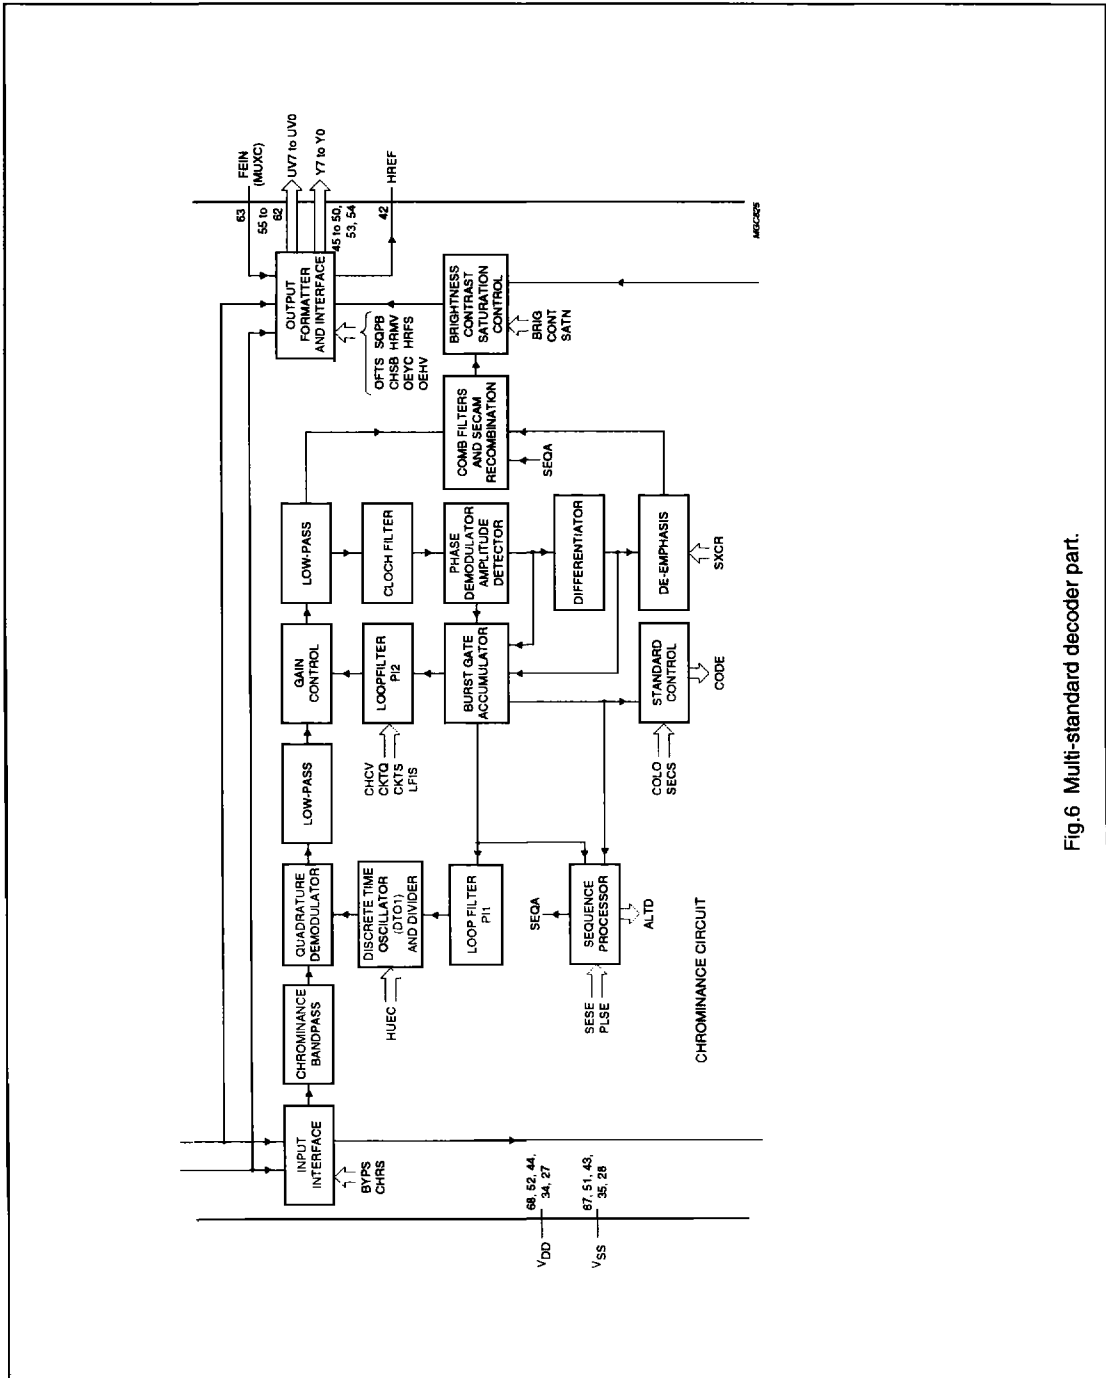

Fig. 6 Multi-standard decoder part.
9.3 Chrominance processing (see Fig.6)